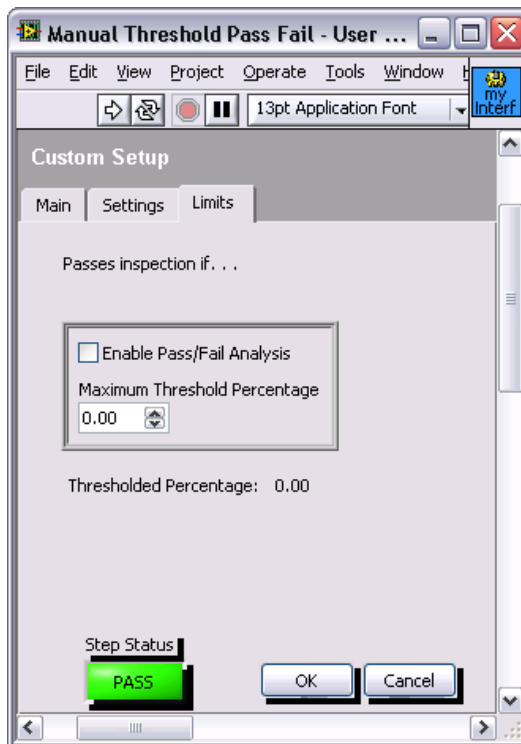

Figure 4-12. Adding a Threshold Percentage Indicator to the Limits Tab
5. Place a numeric indicator on the Limits tab. Label the numeric indicator Threshold Percentage as illustrated in Figure 4-12.